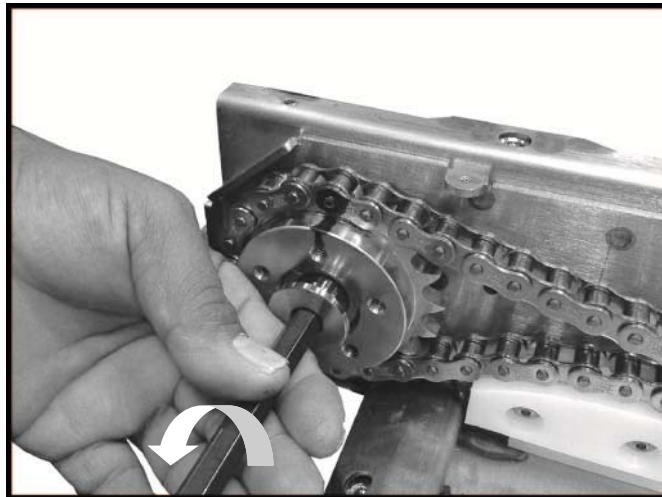

FIGURE 2-8: PLATFORM PIVOT SCREW (LH SIDE SHOWN)
- f. Refer to **Figure 2-8**. Unscrew platform pivot screw.